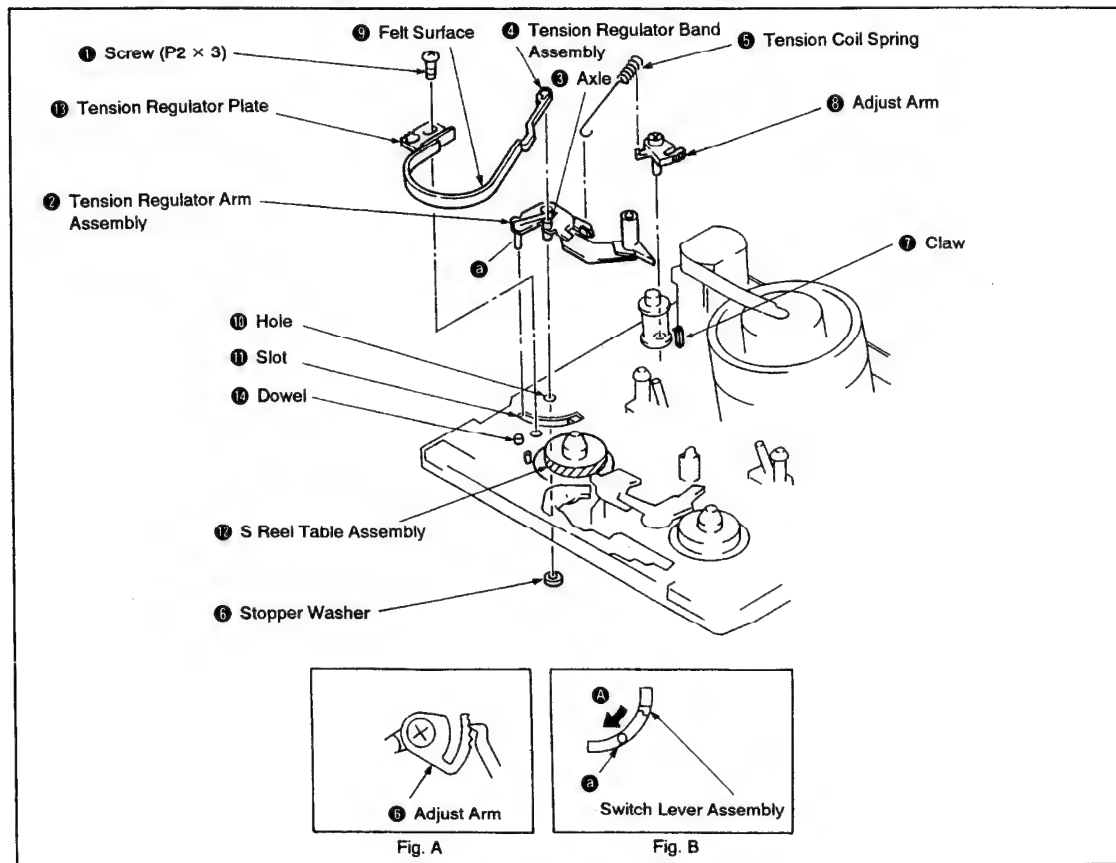

Fig. 3-12.
1. Removal (See Fig. 3-12.)
2. Installation (See Fig. 3-12.)